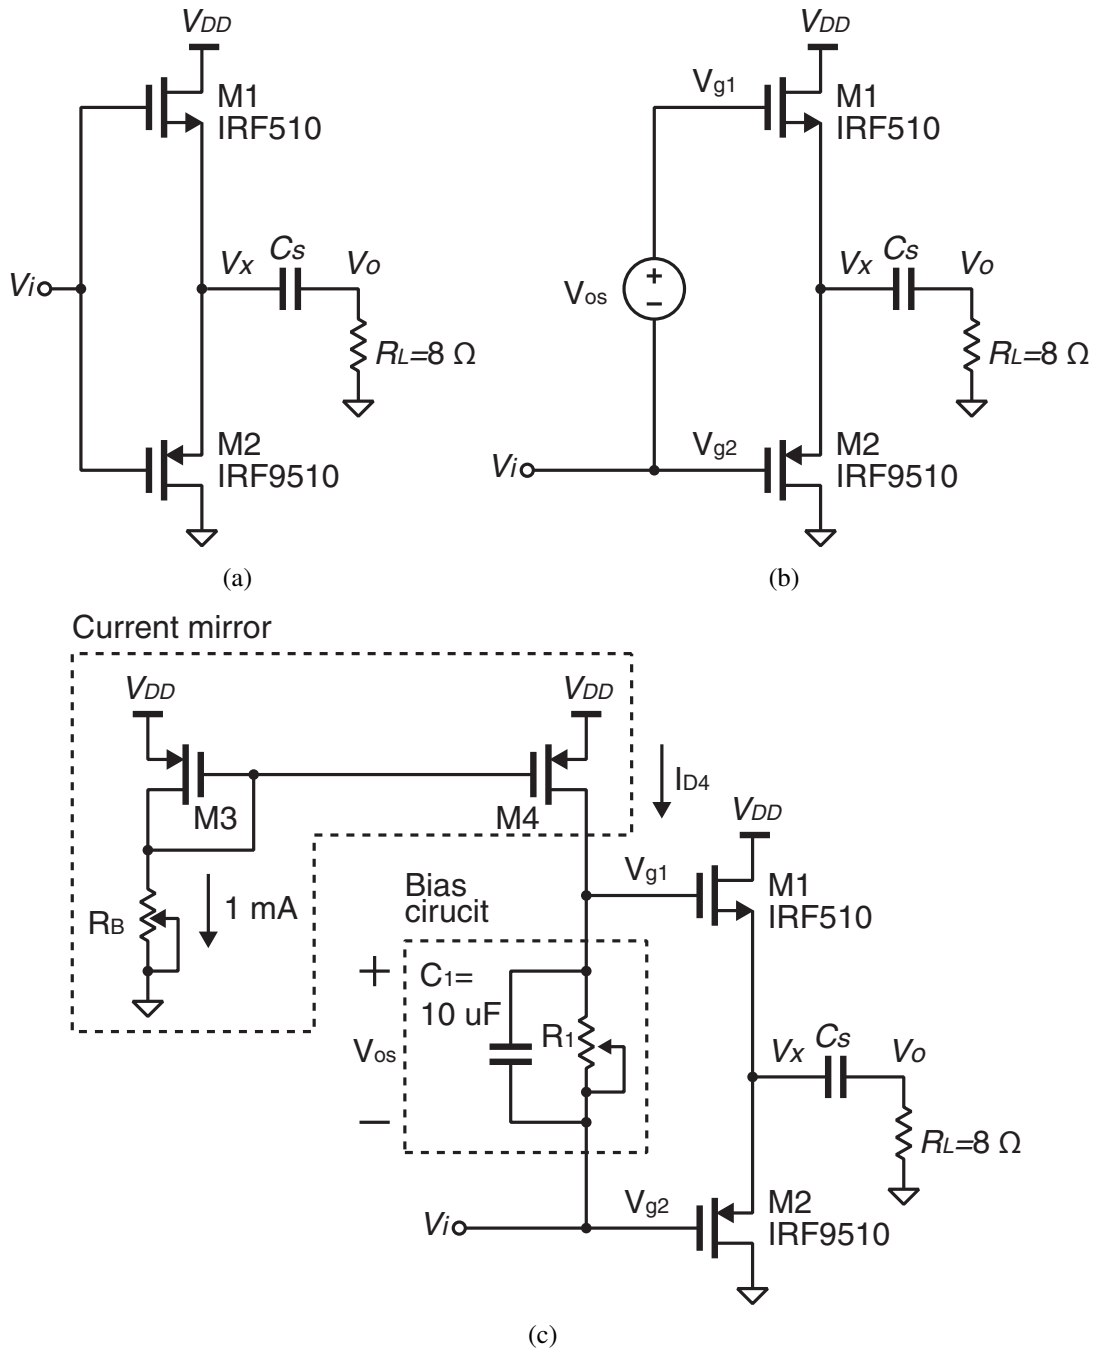

Figure 1: (a) Class B and class AB amplifiers with (b) ideal biasing and (c) bias circuit.
The push-pull power amplifier shown in Figure 1(a) can be used as a buffer because it has a very high input impedance and low output impedance. The push-pull power amplifier is basically a combination of NMOS and PMOS source followers which are responsible for sourcing and sinking current, respectively.
The problem with the push-pull amplifier in Figure 1(a) is the dead zone in which neither of the transistors turn on. This dead zone is caused by the threshold voltages of the transistors and it introduces discontinuity in the transfer characteristics. This mode of operation with a dead zone is called class-B operation.
The dead zone can be cancelled by applying a DC bias voltage ( $V_{os}$ ) across the gates of the NMOS and PMOS transistors as shown in Figure 1(b). By setting  $V_{os} = V_{TN} + |V_{TP}|$ , the dead zone is canceled and either NMOS or PMOS transistor is always ON. Setting  $V_{os} > V_{TN} + |V_{TP}|$  would also work, but consumes more power because both the PMOS and NMOS transistors can turn on at the same time. The best bias point is where  $V_{os}$  is slightly larger than  $V_{TN} + |V_{TP}|$  so the dead zone is cancelled while the power consumption is kept low. This mode of operation is called class-AB operation.
The bias voltage  $V_{os}$  can be generated with a resistor ( $R_1$ ) and capacitor ( $C_1$ ) in parallel as shown in Figure 1(c). The bias voltage  $V_{os}$  is simply a product of  $I_{D4}$ , which is almost constant, and  $R_1$ . The parallel capacitor  $C_1$  provides a small-signal short between the gates of the power transistors.
2. Simulate the class-B push-pull power amplifier in Figure 1(a) with a 1-kHz 12-Vpp sinusoid input biased at 6 V and plot  $V_i$ ,  $V_x$ ,  $V_o$ , and  $I_{D1}$ . Simulate the circuit long enough (about
- Determine the value of  $V_{os}$  and  $R_1$  in Figure 1(c) required to cancel the dead zone using the plot in the previous step.
- Simulate the class-AB push-pull amplifier in Figure 1(c) using the value of  $R_1$  found in the previous step. Adjust the input signal source such that the output node,  $V_x$  is biased at 6 V with a 2- $V_{pp}$  swing. Plot  $V_i$ ,  $V_x$ ,  $V_o$ , and  $I_{D1}$ . Simulate the circuit long enough (about 50 ms) to let  $C_s$  settle, and zoom in to the portion close to the end of the simulation to show a few cycles of the sinusoid. Make sure that the power transistors are biased just in class-AB region so the power consumption is kept minimum while the dead zone is cancelled. This step requires fine tuning of  $R_1$  as well as the input signal source.